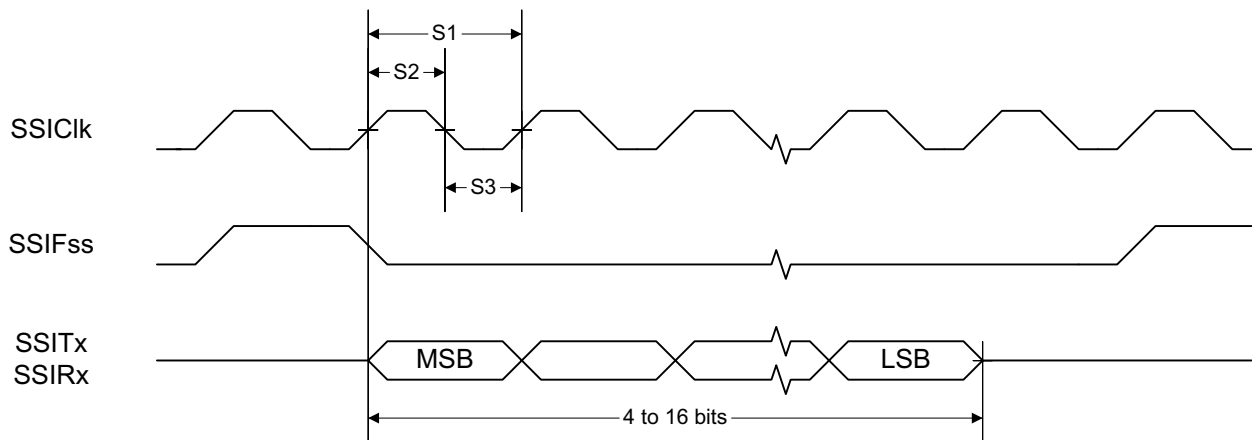

FIG 8-1. SSI Timing for TI Frame Format (FRF = 01), Single Transfer Timing Measurement
- (1) Refer to SSI timing diagrams Figure 8-1, Figure 8-2, and Figure 8-3.
(2) When using the TI-provided Power driver, the SSI system clock is always 48 MHz.